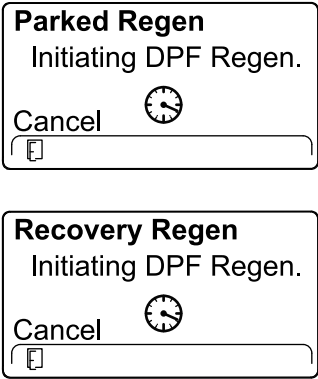

Figure 87
- The InfoCenter displays the INITIATING DPF REGEN message (Figure 87).